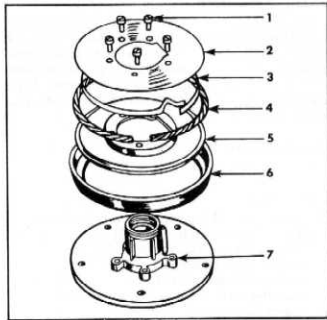

Fig. 15
21. Place the piston assembly on a bench, hub side up, and remove retainer plate screws (1). Then remove retainer plate (2), packing ring (3), wicking (4), packing plate (5) and packing (6) from the piston plate (7) as shown in figure 15.